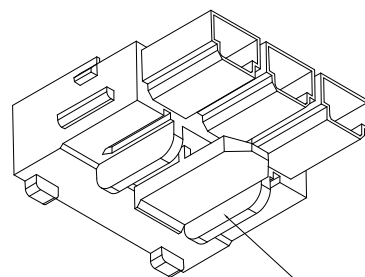
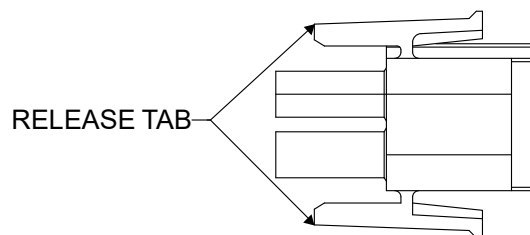

FIGURE 47 - Line Voltage Connector (3 Pin)
FIGURE 48 - Low Voltage Connector (6 Pin)
- 4) Unplug mating harness connectors for low voltage and high voltage in the control section **FIGURE 47- Line Voltage Connector, FIGURE 48- Low Voltage Connector**.
- 3) Disconnect low voltage (6 pin) & line voltage (3 pin) harness connectors by pressing on the release tabs and using a downward motion (**FIGURE 47 - Line Voltage Connector (3 Pin)** & **FIGURE 48 – Low Voltage Connector (6 pin)**).